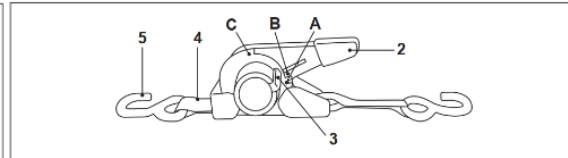

Fig. 2
—Once the ratchet is properly tensioned, leave the lever (2) in the initial position (B) (Fig. 2).